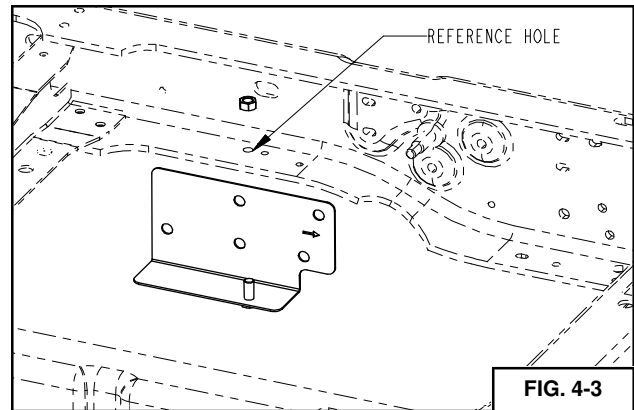

FIG. 4-3
3. Fasten the Front Hanger to the frame using the (6) 9/16 x 1 3/4 UNF BOLTS, (6) 9/16 UNF NUTS and (12) 9/16 FLAT WASHERS. (See Table 12-1 for appropriate Torque)
4. Place the Upper Axle Bracket onto the top of the axle. Insert the (4) 1/2 x 8 UNC BOLTS into the Upper Axle Bracket.
- Place the air spring mount hole templates on the frame with the bolt going through the reference hole on the frame with the arrow pointed toward the front of the vehicle, see Figure 4-3 & 4-4. Clamp the template securely to the frame using supplied nut or other clamps. Using the holes in the template drill the five (5) .50" mounting holes into the frame for both the driver and passenger sides. Remove templates. **Note: Depending on model year some holes may only need to be drilled out to size.**